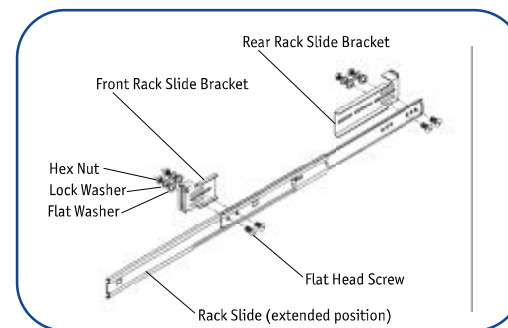

Figure 4. Rackmounting
- 3) Mount the rack slides evenly to the vertical mounting rails in a rack with two screws securing each bracket in the front and rear (Figure 4). Tighten all screws.